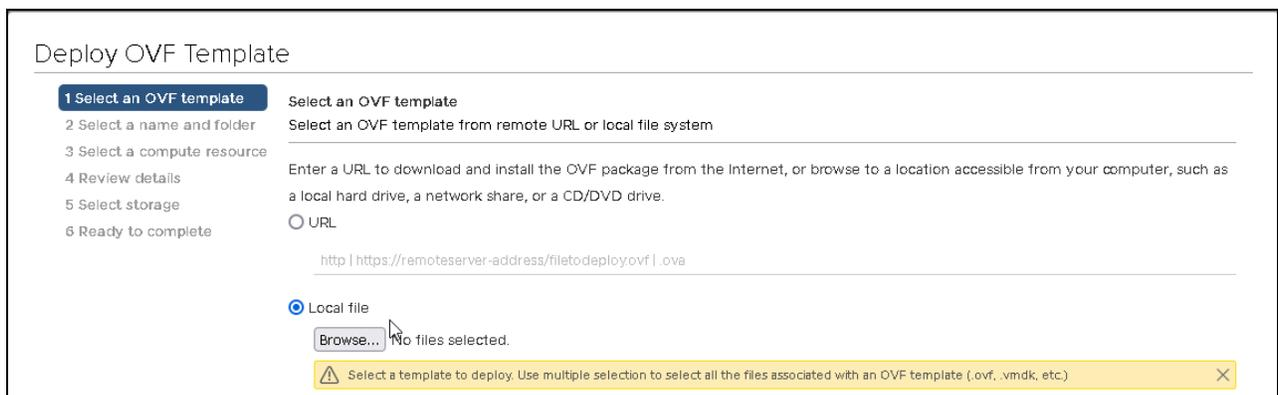
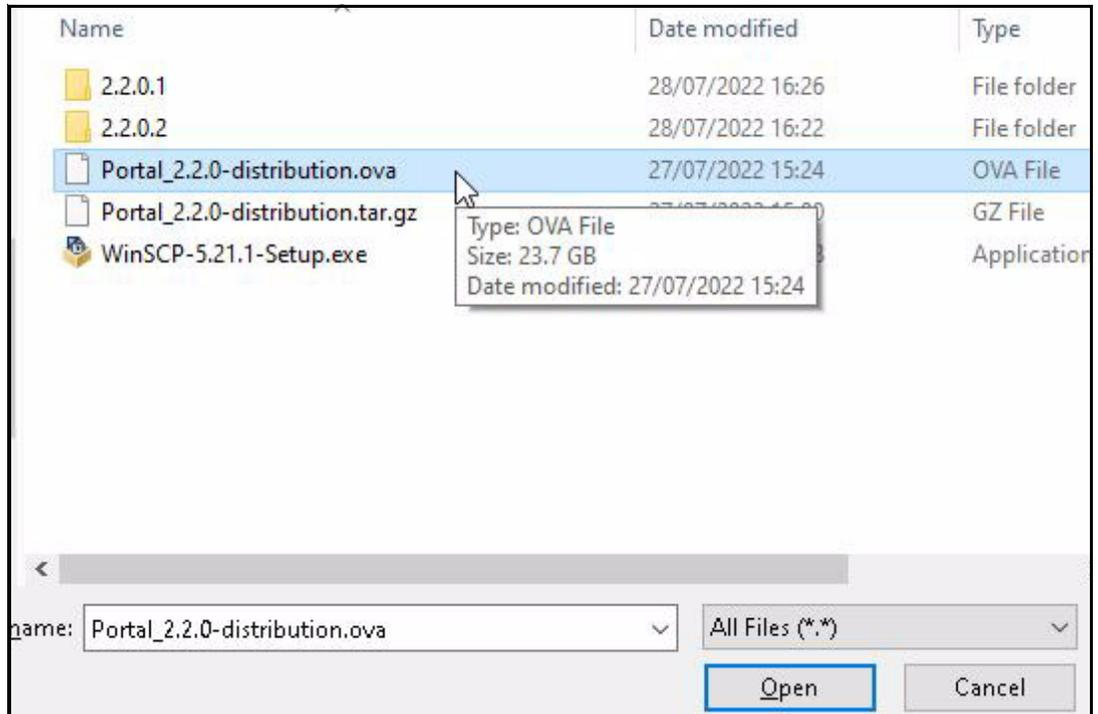

Figure 3-7 Select an OVF Template menu
Figure 3-8 Selecting the Portal-Distribution*.ova file
3. Select an OVF template. The deployment OVF Template user interface guides you through the installation steps, starting with **Select an OVF template**, as shown in Figure 3-7. After you select **Local file**, go to the download folder and select the OVA file, as shown in Figure 3-8 on page 43 for Management Portal v2.2.0.